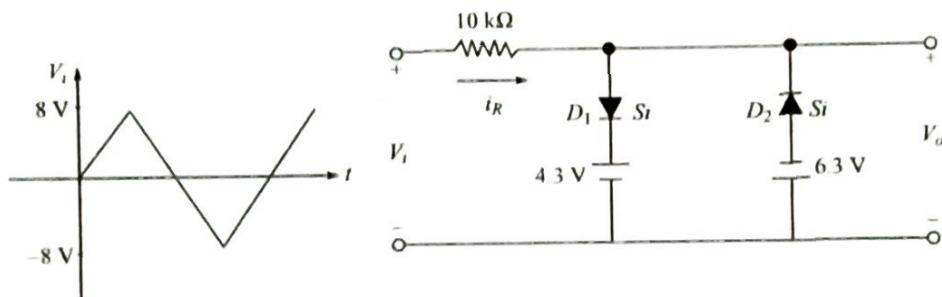

Figure 2.45
**PROBLEM 2.25:** Sketch  $i_R$  and  $V_o$  for the circuit shown in Fig. 2.45.